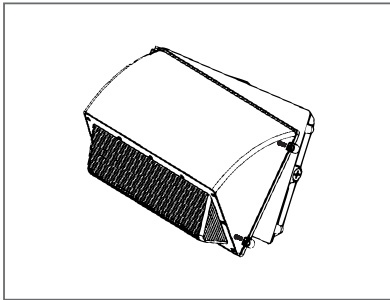

Figure 1
1. Unscrew the screw to remove the lamp body ( Figure 1)